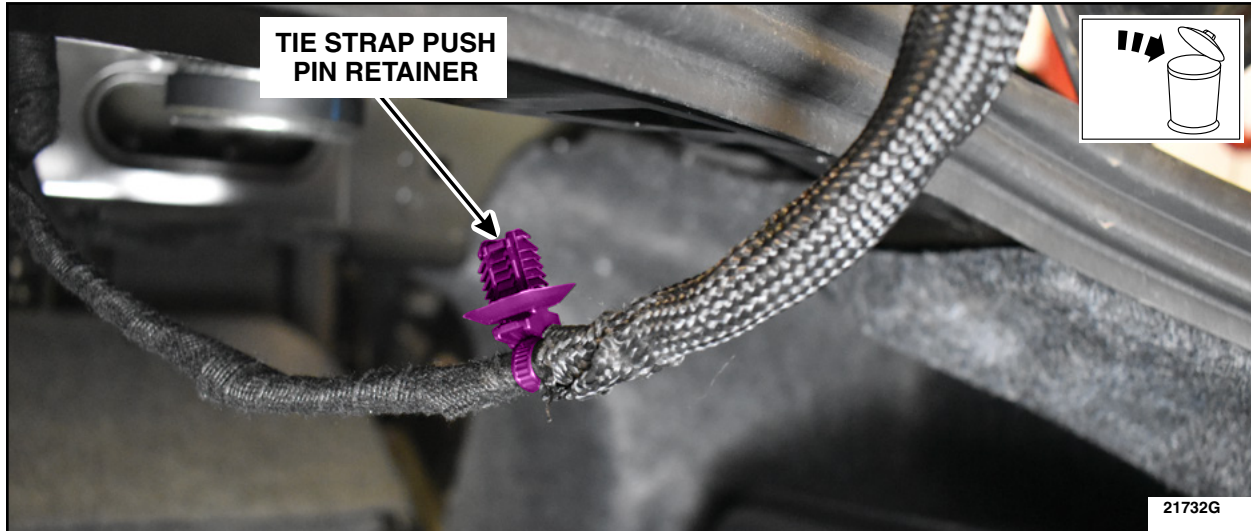

FIGURE 7
11. Remove and discard the lower tie strap push pin retainer. See Figure 7.